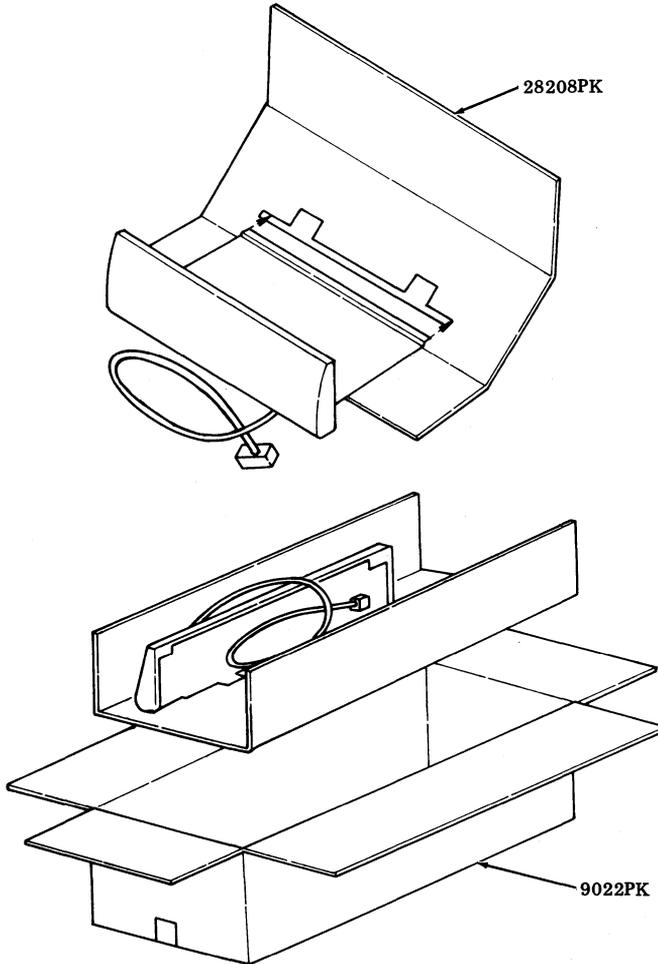

Fig. 41
- Step 3. Form detail 28208PK around unit as illustrated in Fig. 41.
- Step 4. Place unit and detail in carton. See Fig. 41.